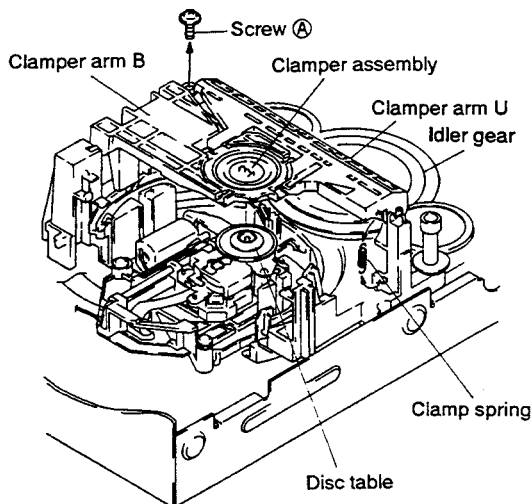

Fig. 1-4
- (1) As shown in Fig. 1-4, rotate the idler gear so that the clasper assembly not to be clamped on the disc table. Next, take out the clamp spring and the screw ①, and remove the clasper arm U and B.